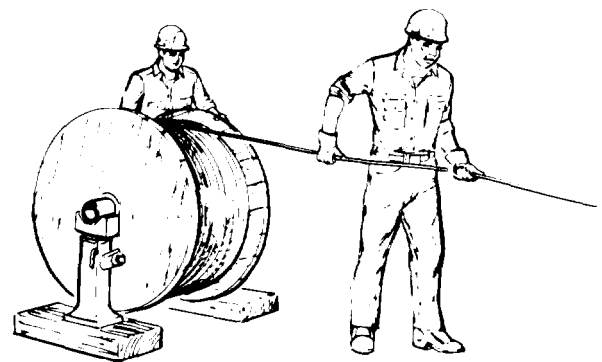

Figure 4-23. *Mounted Unreeling*
1. Method A: The reel is mounted on a shaft supported by two jacks or a roller payoff (Figure 4-23). Since the reel is free to rotate, the rope is pulled from the reel by a workman, holding the rope end and walking away from the reel as it unwinds. A braking device should be employed so that the rope is kept taut and the reel is restrained from over-running the rope. This is necessary particularly with powered de-reeling equipment.